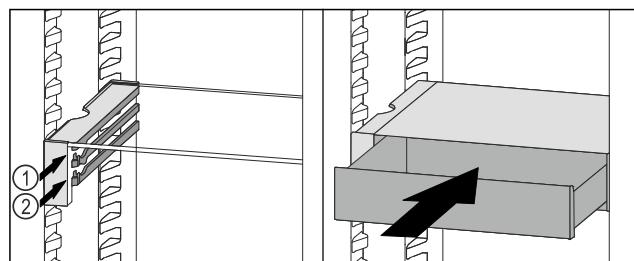

Fig. 133
- ▶ Place the VarioSafe drawer behind the stoppers on desired rib Fig. 133 (1) or Fig. 133 (2).